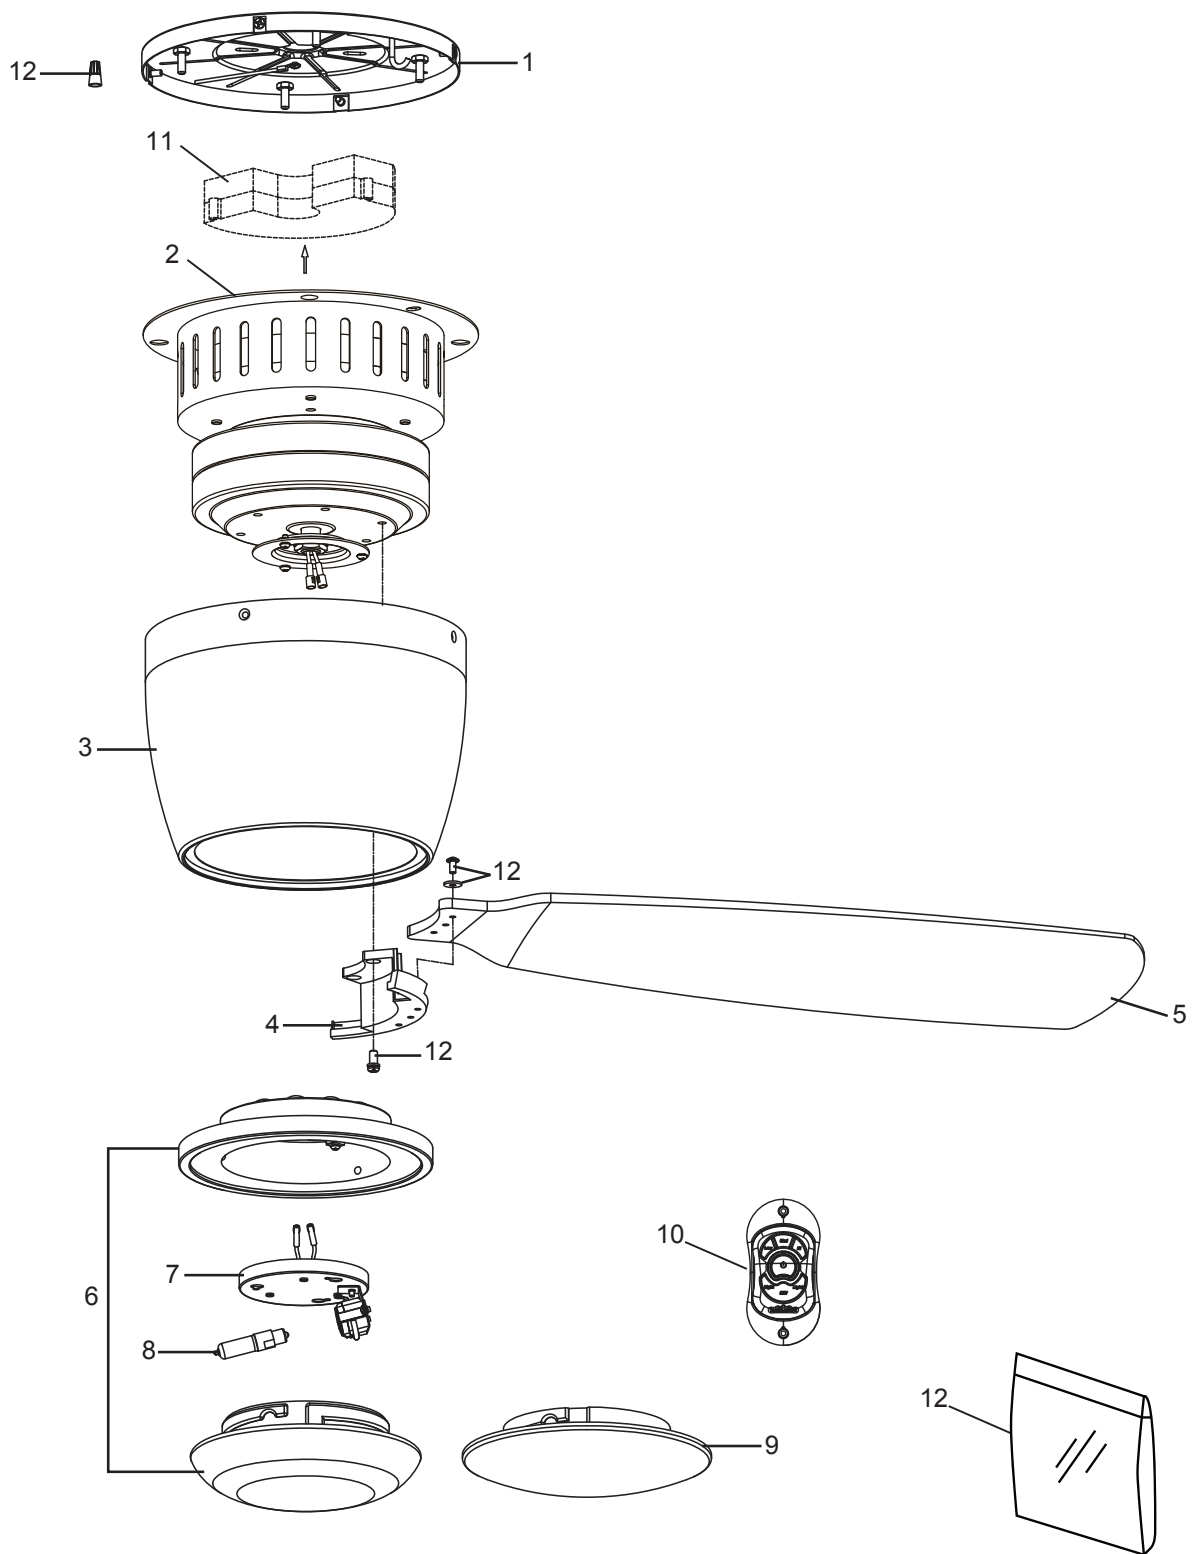

Figure 1
1. Remove one of the three screws in the support bracket at the bottom of the motor assembly. Slightly loosen the remaining two screws. Assemble the light plate assembly to the support bracket using the two key slots in the light plate. Replace the third screw and securely tighten all three screws. (Figure 1)
- 1. IMPORTANT:** Using a full range dimmer switch (not included) to control fan speed will damage the fan. To reduce the risk of fire or electrical shock, do not use a full range dimmer switch to control the fan speed. (Figure 1)
1. Unthread two screws from the wall switch plate. (Figure 1)
1. Drill the two 1/4" holes in wall and use the M6 plastic anchor pushed into the holes. Install the control bracket with two #3- 1" self tap screws. Push the four plastic plugs in to cover the screw holes. (Included in the control packaging). (Figure 1)